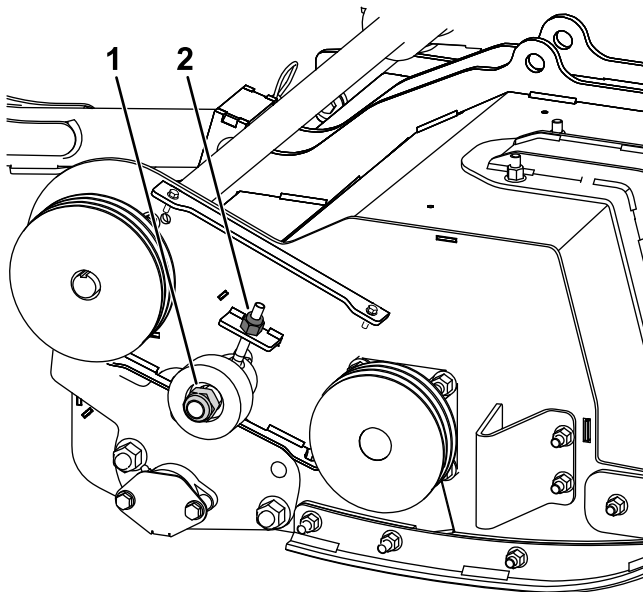

Figure 27
4. Adjust the nut on the idler pulley post to tension the belt (Figure 27).
3. Loosen, but do not remove, the idler pulley nut (Figure 27).